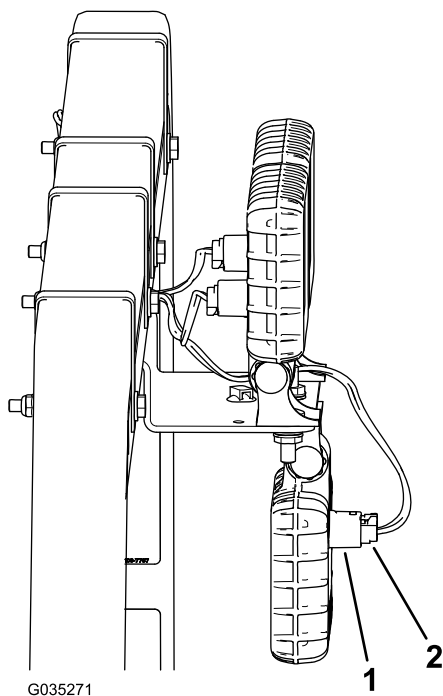

Figure 6
4. Connect the 3 wire-harness connectors to the 3 openings in the 3 LED work lights (Figure 6).